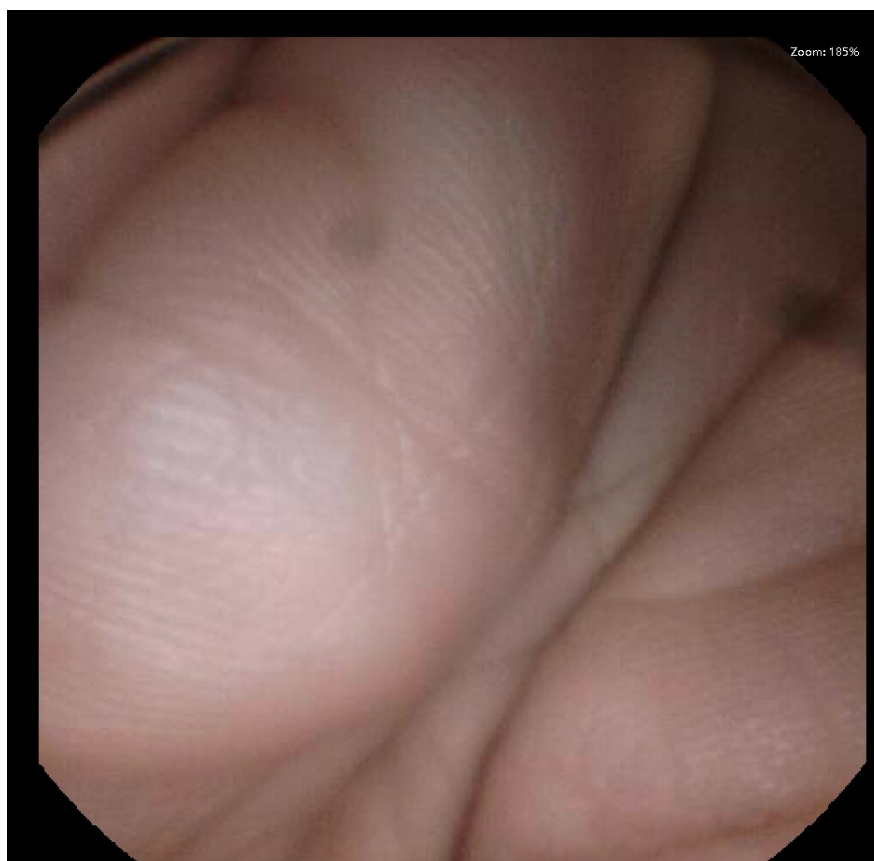

Figure 4-4: Zoom Function
1. Image zoom-in and out can be realized by mouse scrolling, then scaled to x% will be displayed in upper right corner of the image to represent current scaling factor, as shown in Figure 4-4.